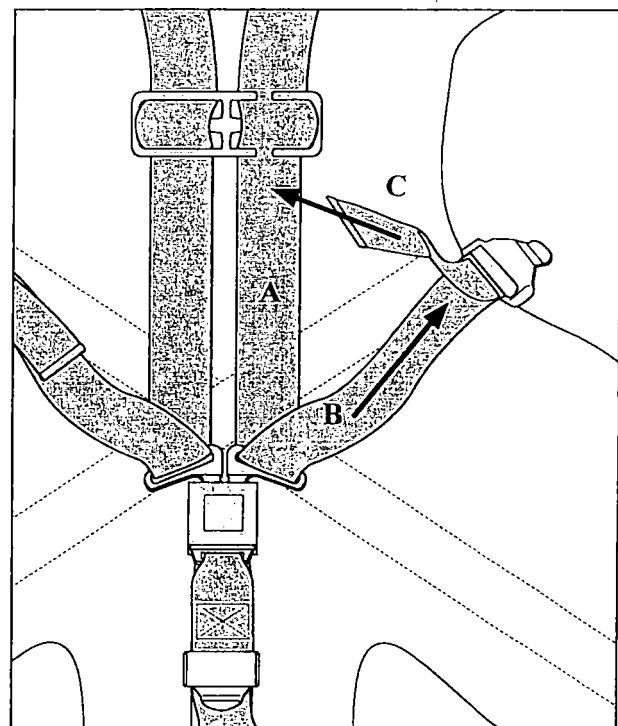

Figure 6 - Fastening a Shoulder Strap
5. To snug the shoulder/torso straps, refer to Figure 6 and use the following procedure:
- o Snug the shoulder strap (A) against the shoulder and chest by pulling section B of the strap with one hand while steadying the central buckle with the other hand.
- o Snug the torso strap (B) by pulling on section C with one hand while steadying the central buckle with the other hand.